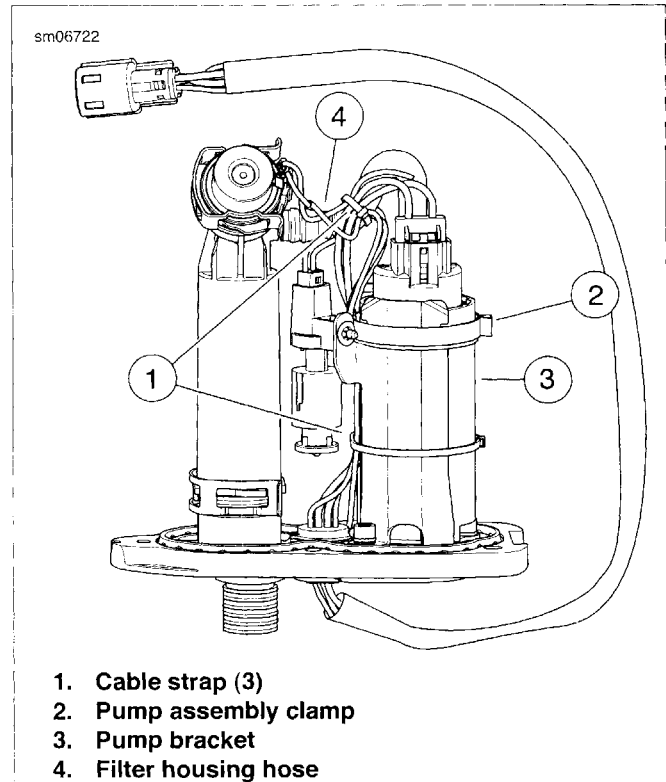

Figure 4-82. Fuel Pump Assembly: Location of Cable Straps and Pump Clamp
See Figure 4-82. When disassembling or assembling the fuel pump and sender assembly, refer to this figure for the relative positions of the wiring harness cable straps (1) and pump assembly clamp (2).
1. See Figure 4-82. Cut and discard cable strap (1) securing wiring harness to the filter housing hose (4).
1. See Figure 4-82. Make note of the location of any cable straps securing wiring harness to the fuel pump bracket (3). Cut and discard cable straps.
1. See Figure 4-82. Make note of the location of cable strap (1) securing low fuel level sensor connector to filter housing hose (4). Cut and discard cable strap.
1. See Figure 4-82. Make note of the location of cable straps (1) securing fuel pump/sender harness to fuel pump bracket (3) and filter housing hose (4). Cut and discard cable straps.
2. Secure fuel pump/sender harness grounding eyelet to pump bracket (5) using screw w/lock washer (6). Tighten to 19-36 **in-lbs** (2.1-4.1 Nm).
3. Plug low fuel level sensor connector (15) into fuel pump/sender harness. Plug fuel pump harness connector [86] (13) into fuel pump (2).
4. See Figure 4-82. Secure wiring harness to fuel pump bracket (3) and filter housing hose (4) with cable straps (1).
2. Plug the fuel pump/sender harness connector (15) into the low fuel level sensor (17).
3. See Figure 4-82. Secure low fuel level sensor connector and fuel pump/sender harness to filter housing hose (4) with cable strap (1).
2. Install low fuel level sensor assembly (17) onto pump bracket. Secure with push nut (16).
3. Install fuel pump assembly (2) with pump insulator (3) onto pump bracket. Secure with pump assembly clamp (7) (for relative position of clamp, see Figure 4-82.)
4. Install filter housing hose (11) on top of fuel pump. Secure with clamp (1).
5. Plug in fuel pump harness connector [86] (13).
6. See Figure 4-82. Secure fuel pump/sender harness to fuel pump bracket (3) with cable straps (1).
4. Install filter housing hose (11) on top of fuel pump (2). Secure with clamp (1).
5. Install ground clip (12) on top of filter housing.
6. See Figure 4-82. Secure fuel pump/sender harness to filter housing hose (4) with cable strap (1).